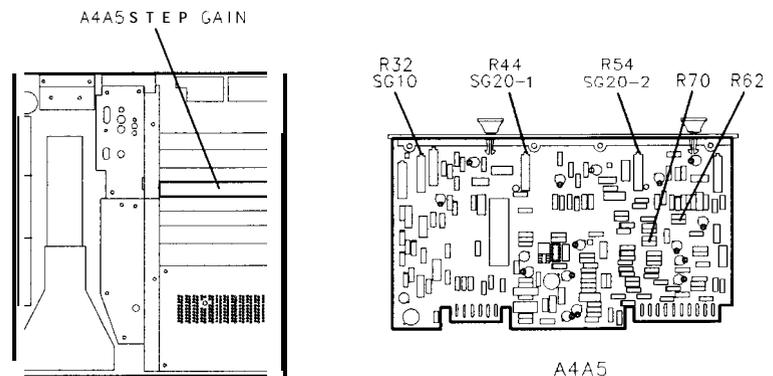

Figure 3-48. Location of 10 dB Gain Step Adjustments
- Adjust A4A5R32 SG10 for MKR A level of .00 dB (CRT MKR A annotation is now in upper right corner of CRT display). See Figure 3-48 for location of adjustment.
- Adjust A4A5R44 SG20-1 for MKR A level of .00 dB. See Figure 3-48 for location of adjustment.
- Adjust A4A5R54 SG20-2 for MKR A level of .00 dB. See Figure 3-48 for location of adjustment.